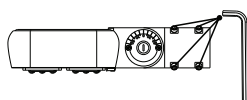

Figure 1
1. Loosen 4 fixing screws on the slip fitter (figure 1)